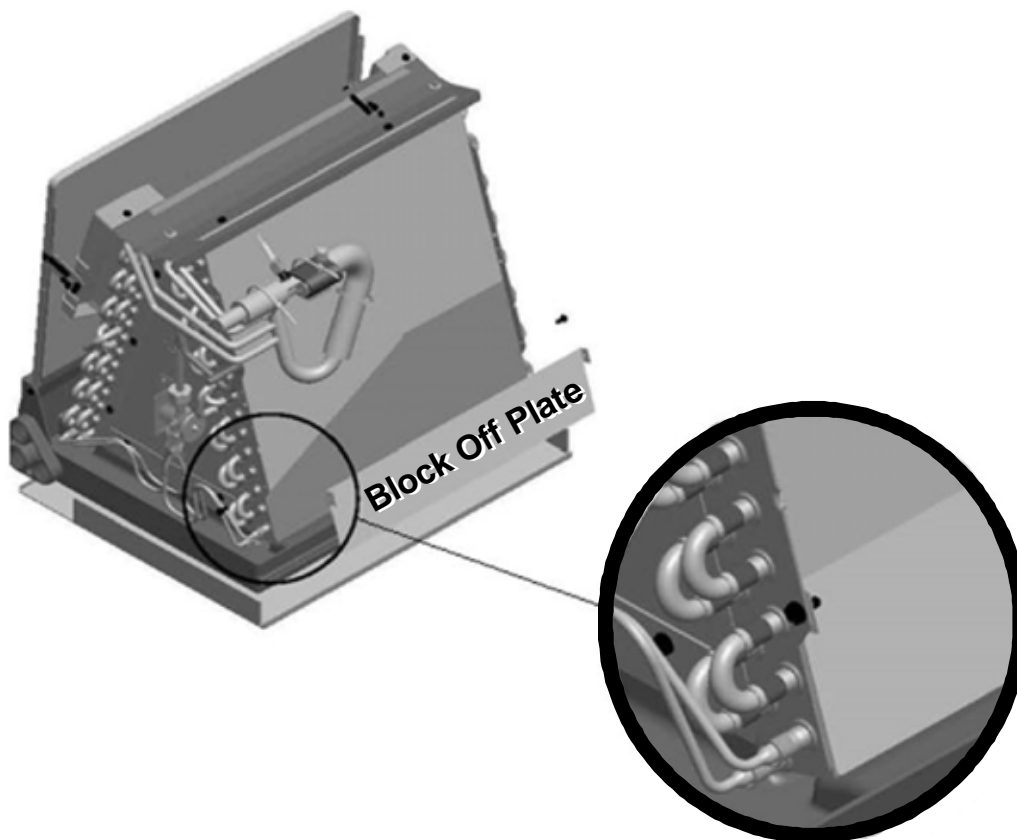

FIGURE 4 - Block Off Plate
8. Add block off plate on side A of coil as shown in Figure 4.
9. Make sure the hole on the block off plate aligns with the hole on the coil and secure the block off plate with two provided screws as shown in Figure 4.